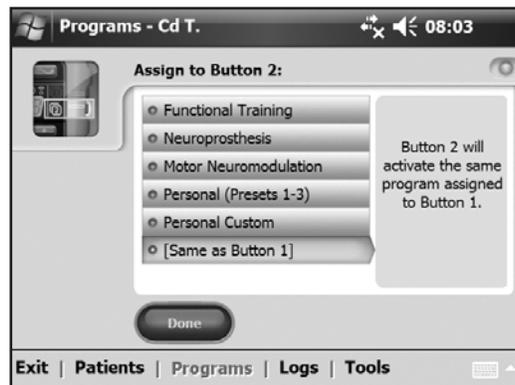

Figure 8-37: Assign to Button 2 window.
2. The Assign to Button 2 window will open. See Figure 8-37.